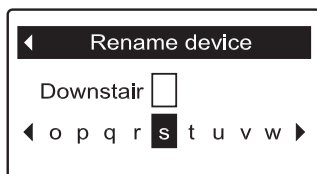

FIG. 122
7. Press the RIGHT (▶) or LEFT (◀) buttons to scroll through the character list.. Stop when the character you want to select is highlighted (See Fig. 122).